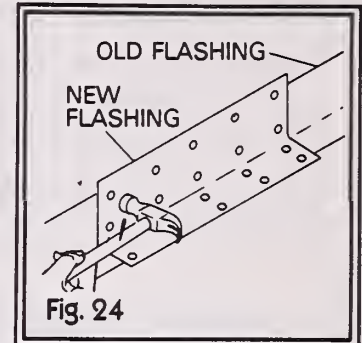

Fig. 24
5. Place the remaining portion of the new flashing up against the wall portion of the existing flashing and nail it into place (fig. 24). Apply asphalt cement.